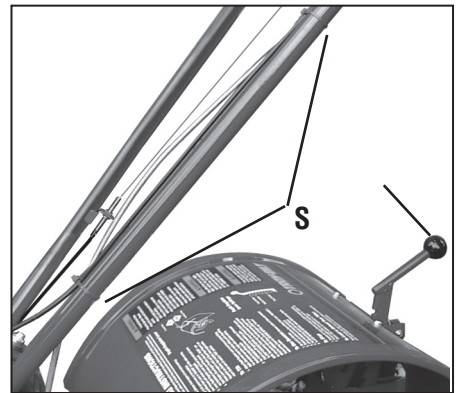

Figure 2-13: Attach wheel gear cable and reverse clutch cable with cable ties (S).
1. With the tiller on level ground, pull the Depth Regulator Lever (R, Figure 2-13) back and then slide it to the second notch from the top. NOTE: If the lever does not move, lift the tine hood flap and look for a plastic tie securing the lever in place. Cut and remove the tie.
4. Secure the wheel gear cable and the reverse clutch control cable to the left-side handlebar with two plastic ties (S, Figure 2-13) located about two feet apart. Snip off any excess tie length with scissors.